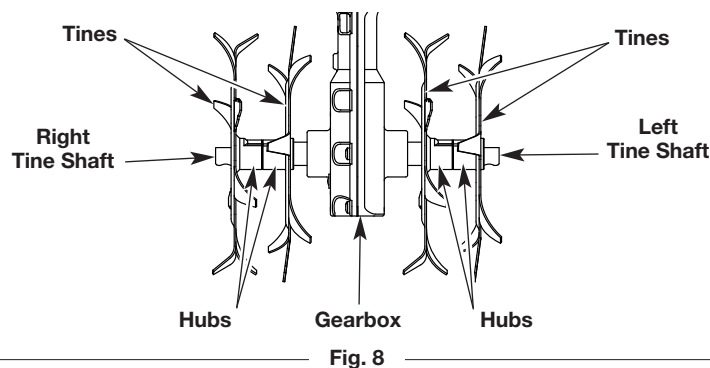
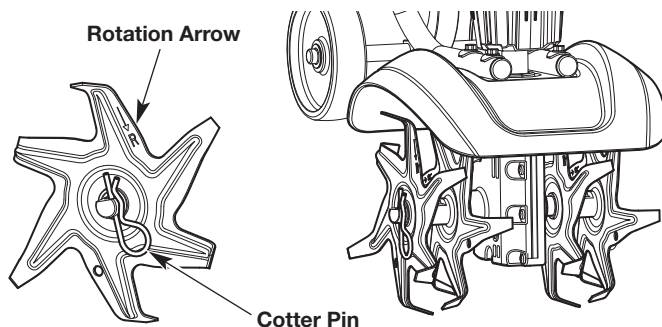

Fig. 8
Fig. 9
3. Remove the cotter pins from each end of the tine shaft (Fig. 9). Slide the tines off of the shaft (Fig. 8).
5. Slide on the new tines with the hubs facing in towards each other (Fig. 8). Making sure that the rotation arrows are facing the gearbox when installing the tines on left tine shaft and away from the gearbox for the right tine shaft. (Fig. 9)
6. Secure the new tines to the shaft with cotter pins (Fig. 9).